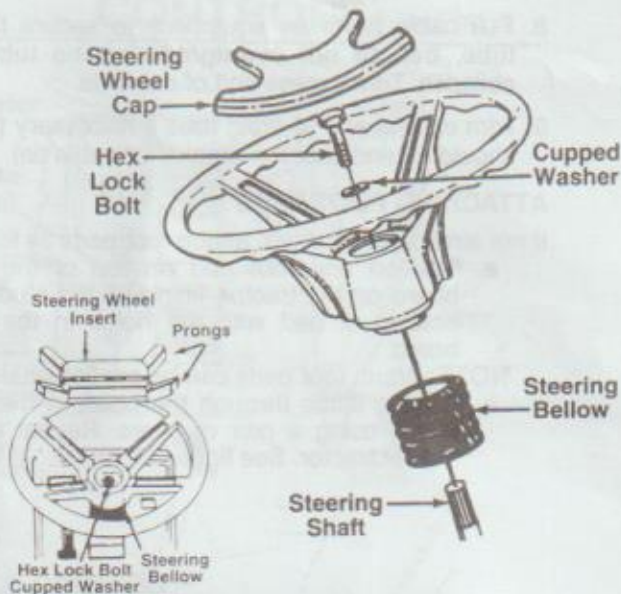

FIGURE 1.
5. Place the washer with the cupped side down over the steering shaft. Secure with hex lock bolt. See figure 1.
- 6a. Place the **steering wheel cap** over the center of the steering wheel and seat it with your hand. See figure 1.
- 6b. Snap the **steering insert** over the four spokes of the steering wheel. See figure 1, inset.